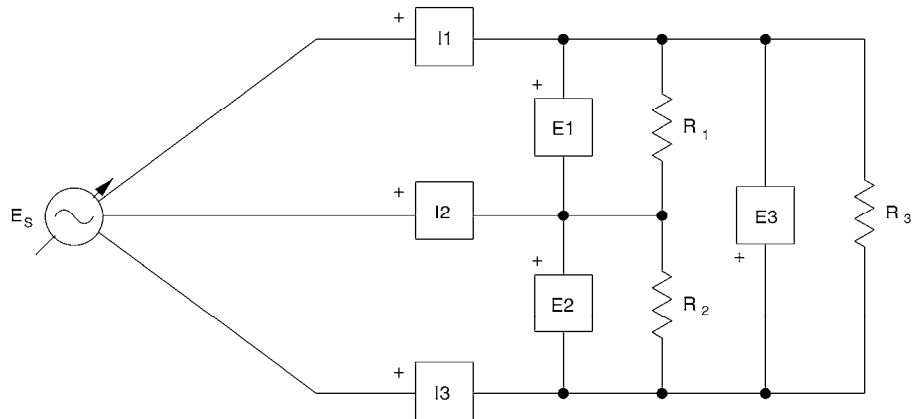

Figure 6-8. Measuring the line currents in the delta-connected resistive load.
27. Reconnect meter inputs I1, I2, and I3 as shown in Figure 6-8 to measure the line currents for the delta-connected load. Make sure that E_S is set to the same value used in step 24. Open configuration file *ES16-5.dai*. Measure and record the line currents, then turn off the Power Supply. Determine the average line current.